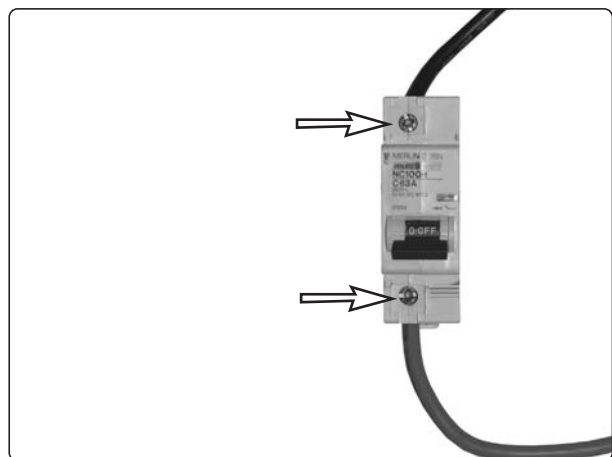

Fig. 54. Circuit breaker electrical connections.
6. Disconnect the cables from the circuit breaker by loosening the screws, see fig. 54.